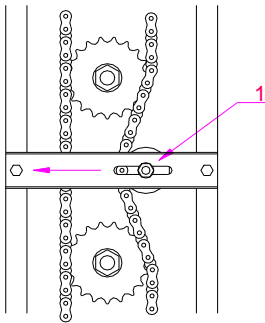

FIG. 9
- Loosen slightly screw (1) fig. 9 and move the tautener to the left. Fasten the tautener again by tightening the screw (1) once the chain is properly tautened.